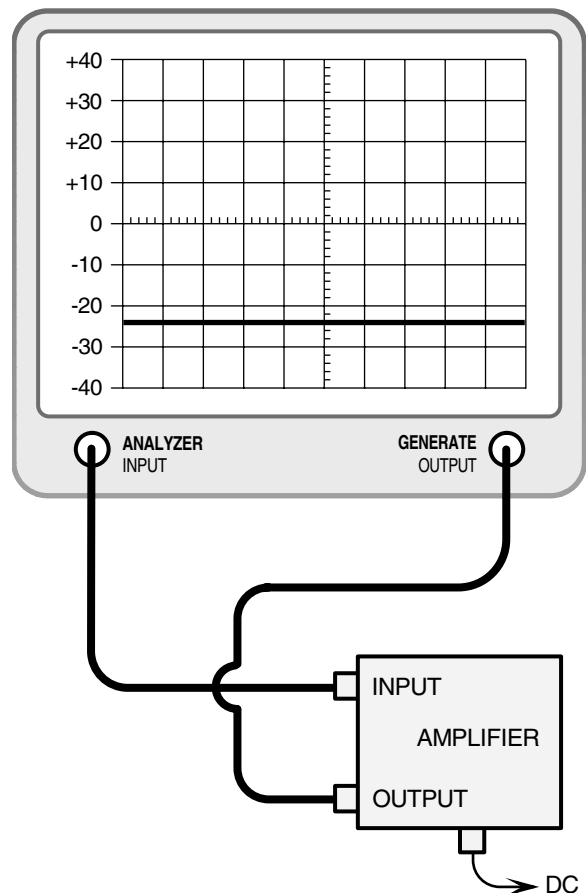

Figure 8: Measuring reverse isolation.
- 13) Connect the equipment as shown in figure 8 but connect the test leads together through a female barrel connector. Repeat the zero reference procedure of step 2.
- 14) Using the figure 8 connection, verify that the Reverse Isolation is at least -20 to -22 dB. This value will occur normally as the result of proper tuning.